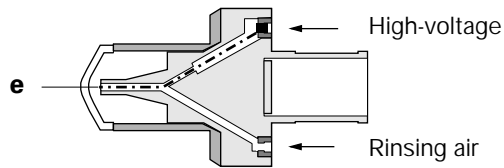

Figure 5
The control unit supplies DC voltage to the gun. This is fed through the powder gun cable (11) to the high-voltage generation section (4). The integrated electronics (c) in the gun generates an alternating current from the direct current. This alternating current is stepped up in the multiplier (d) to the rectified high-voltage required for the application. The High-voltage is now fed to the electrode (e) in the spray nozzle (compare Figs 5 and 6).